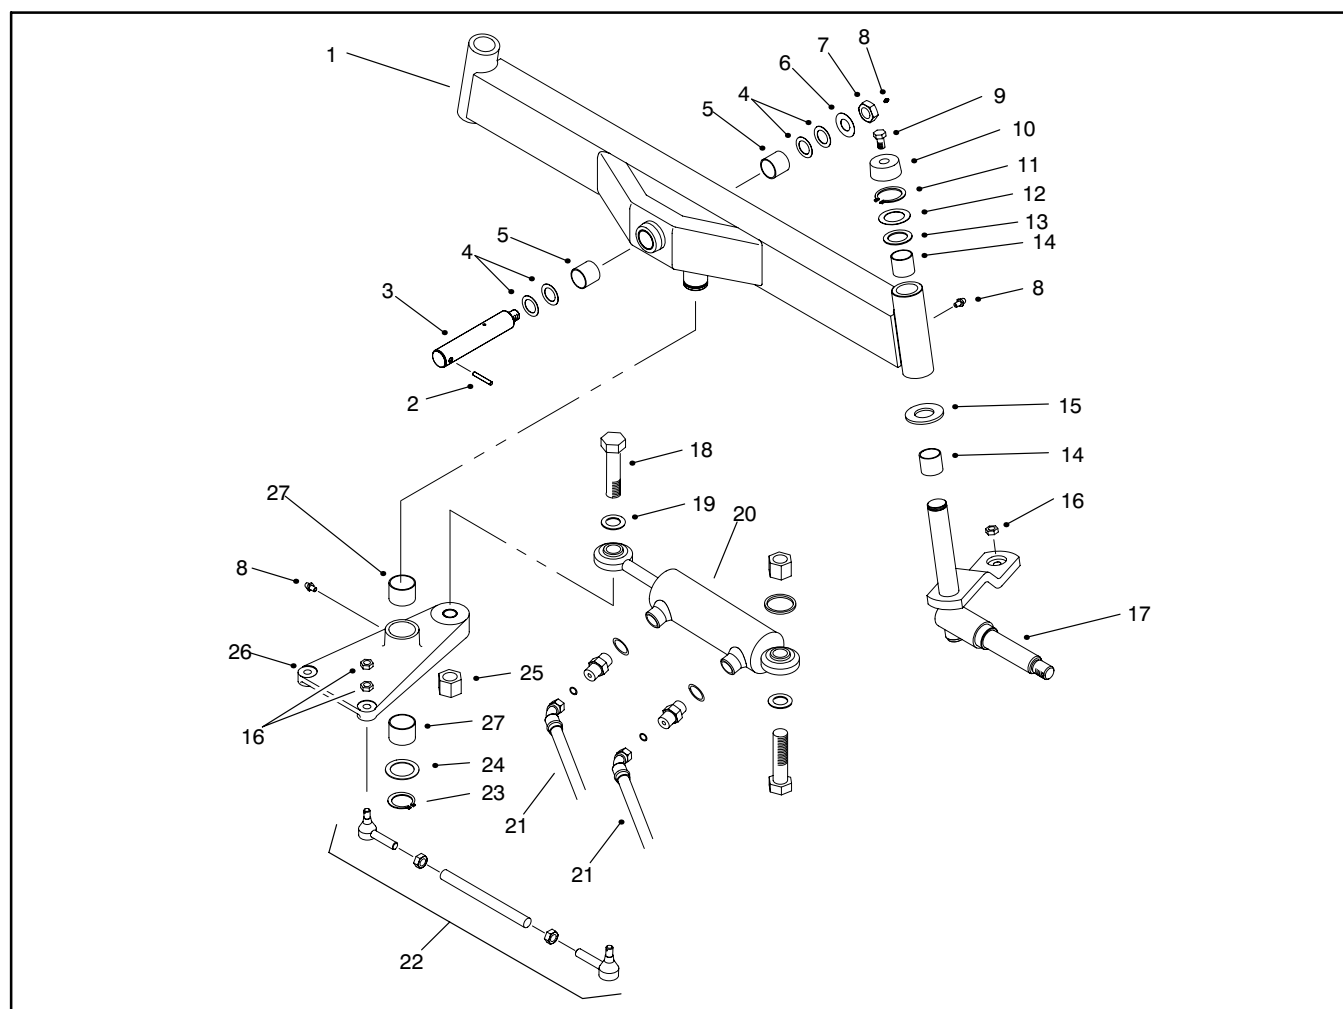

Figure 14
2. Remove the jamnut and thrust washer securing the end of the axle pivot pin to the chassis (Fig. 14).
1. Remove the lock nut, cap screw, and thrust washer securing the steering cylinder rod end to the steering pivot plate (Fig. 14).
2. Remove four (4) jamnuts to disconnect both tie rod ends from the pivot plate. Inspect all tie rod end ball joints for wear or damage and replace as necessary.
7. Connect each tie rod end to the pivot plate with two (2) jamnuts. For each tie rod, tighten the first nut to a torque of 25 to 33 ft-lbs. (34 to 45 Nm). Install the second jamnut and tighten against the other nut to secure tie rod end.